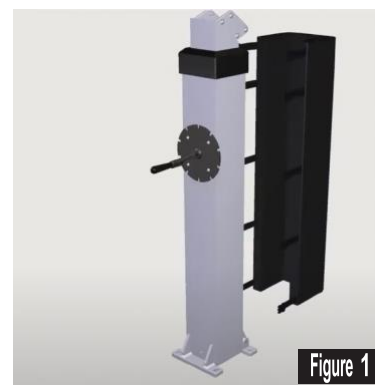

Figure 1
STEP 1: Remove the Pad from the Base Pole (Part E). See Figure 1.